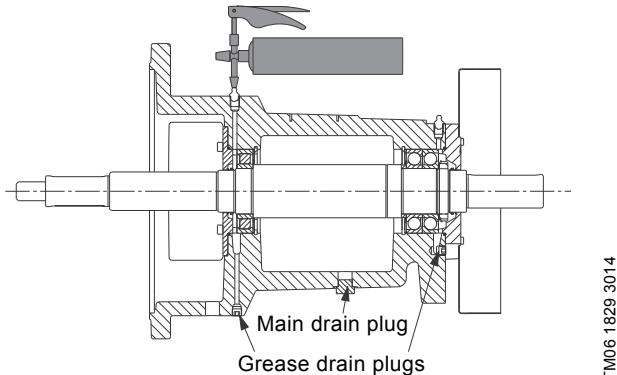

Fig. 33 Renewing the grease
1. Remove the main drain plug, see fig. 33, in the bottom of the bearing bracket for one hour during operation to remove old and excess grease.
2. Remove the grease drain plugs. See fig. 33.